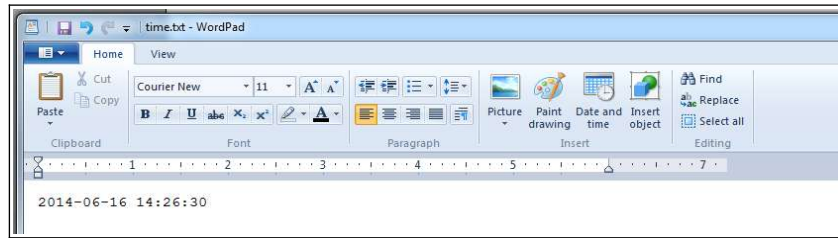

Figure 11: Example Time Entry in time.txt File
- Step 2: Enter on the first line the current date and time as “yyyy-MM-dd HH:mm:ss” in 24-hr format. Figure 11 provides an example time.txt file that will initialize the RTC to 2:26:30 pm June 16, 2014.